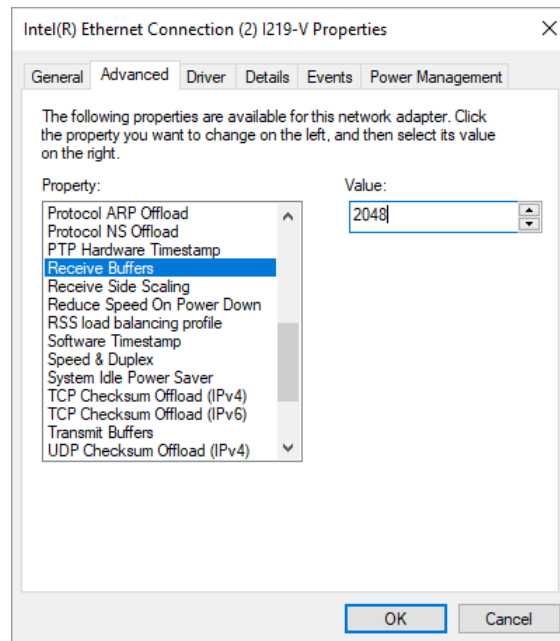
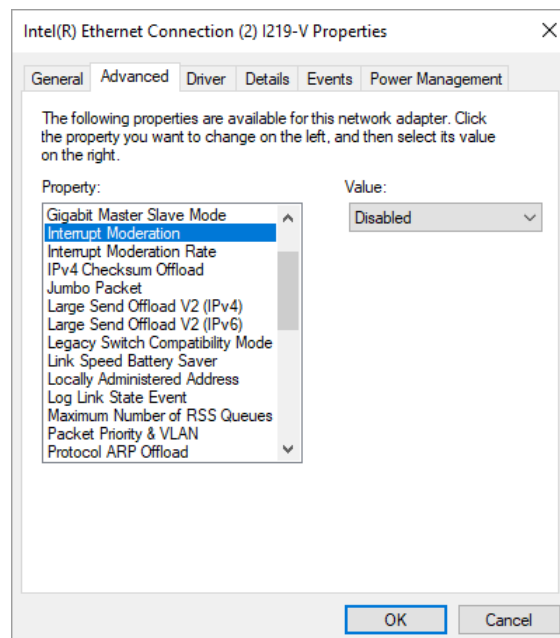
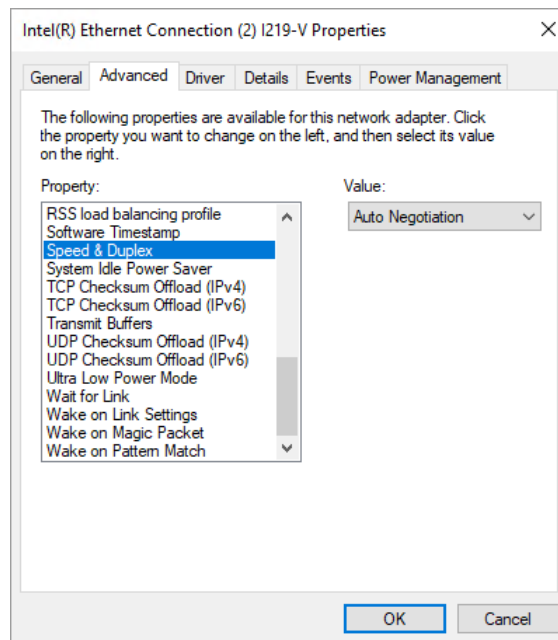

Figure 1.8: Advanced Network Adapter Properties: Receive Buffer Size
Figure 1.9: Advanced Network Adapter Properties: Interrupt Moderation
Figure 1.10: Advanced Network Adapter Properties: Auto Negotiation
- If necessary to improve the reliability of the connection following settings can be configured: If available in the network card configuration, the receive buffer size (Fig. 1.8) should be set to the highest number, the interrupt moderation (Fig. 1.9) should be switched off and the auto negotiation (Fig. 1.10) should be disabled and set to the corresponding link speed.